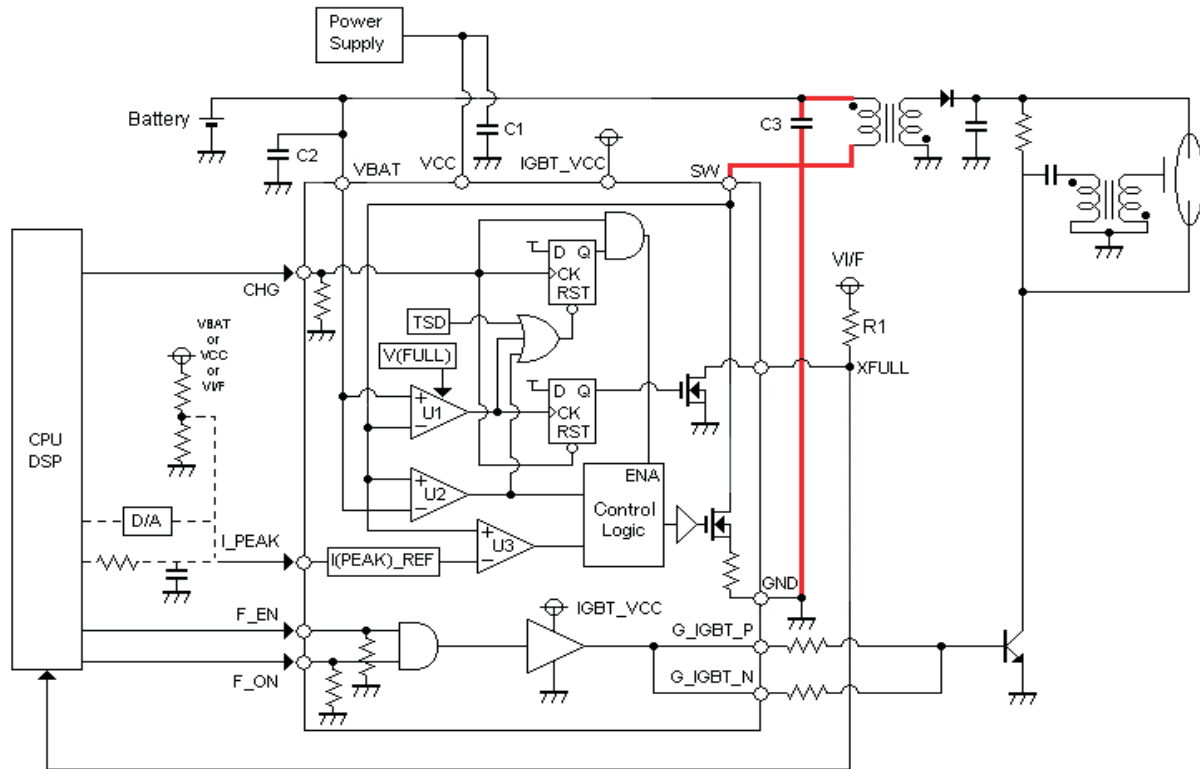

Figure 26. PCB Design Guideline
- **NOTE 2:** The loop indicated by the line in red in Figure 26 should be connected as close as possible to reduce voltage spikes at the SW terminal. If this loop is not close, the parasitic inductance might cause device failure.
- **NOTE 3:** The parasitic resistance in the power path from the battery to primary-side turn of the transformer should not be ignored because the large current flows from the battery to primary-side turn of the transformer. The TPS65573 has a single-point ground connection inside the TPS65573 at GND terminal. Therefore, the PCB layout should also keep a single point ground connection at the GND terminal of TPS65573. A bypass capacitor (C1 in Figure 26) is required to avoid noise introduced by grounding, the recommended value is 1 μ F. Also the distance from C1 and VCC (GND) should be minimized.
- **NOTE 4:** To operate the TPS65573 at a lower battery voltage (the voltage of VBAT terminal is less than 2.0 V), two bypass capacitors (C2 and C3 in Figure 26) should be required to reduce the waggle at the VBAT terminal. C2 is the bypass capacitor from VBAT terminal to GND, the recommended value is 10 μ F, put it as close as possible to the VBAT terminal. C3 is the bypass capacitor from battery line to GND, the recommended value is 10 μ F, put it as close as possible to the transformer.